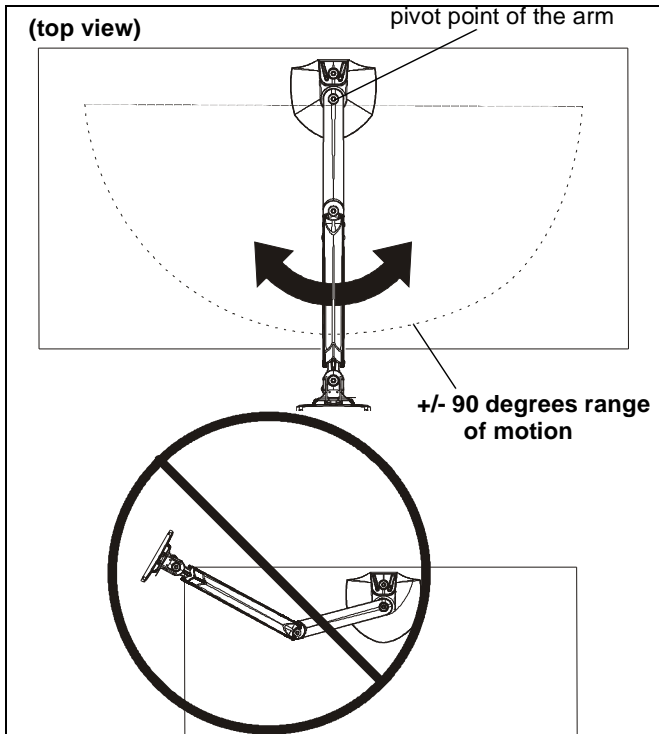

Figure 26
1. Adjust arm angle as desired up to 90 degrees in either direction. (See Figure 26)